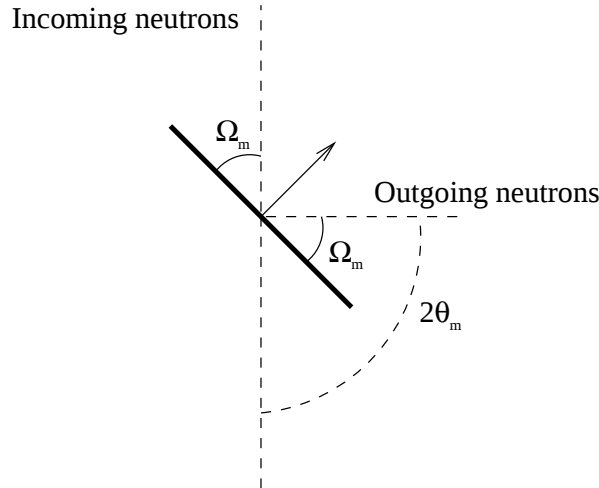

Figure 3: Illustration of the monochromator orientation.
2. Insert the two new arms at (0,0,2) relative to the Origin. Put the Monochromator_flat component (use the component library index to get the needed parameters) at (0,0,0) relative to the monochromator arm. Also, add two new input parameters of your instrument, which we will call OMM (Ω_M) and TTM ($2\theta_M$). These will define the angles of rotation at the monochromator as portrayed in Figure 3.
3. Given $\lambda = 4 \text{ Å}$, and knowing that for the monochromator $\kappa = 1.8734 \text{ Å}^{-1}$ (Pyrolytic Graphite (002) reflection), use Bragg's law to determine the correct Bragg angle (*i.e.* OMM/TTM) of the monochromator. Add the OMM and TTM input parameters to the DEFINE line at the beginning